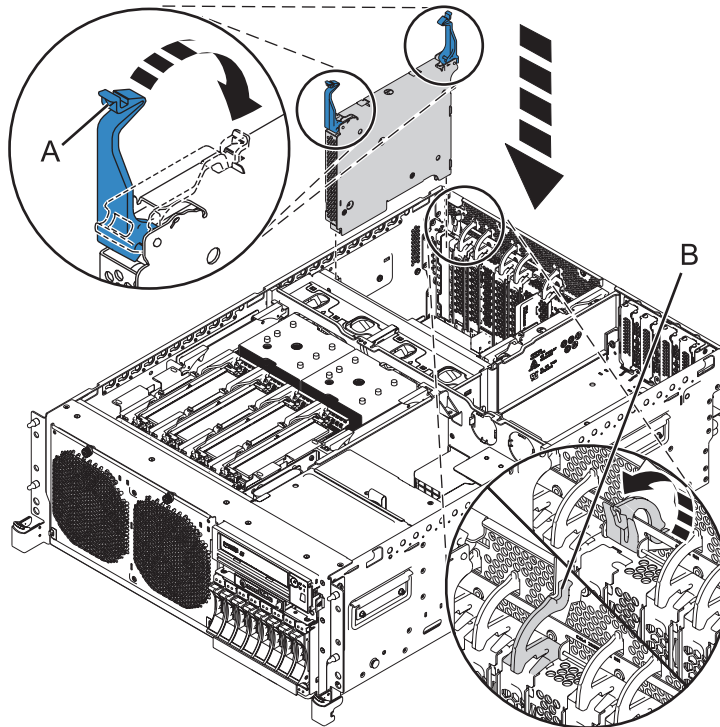
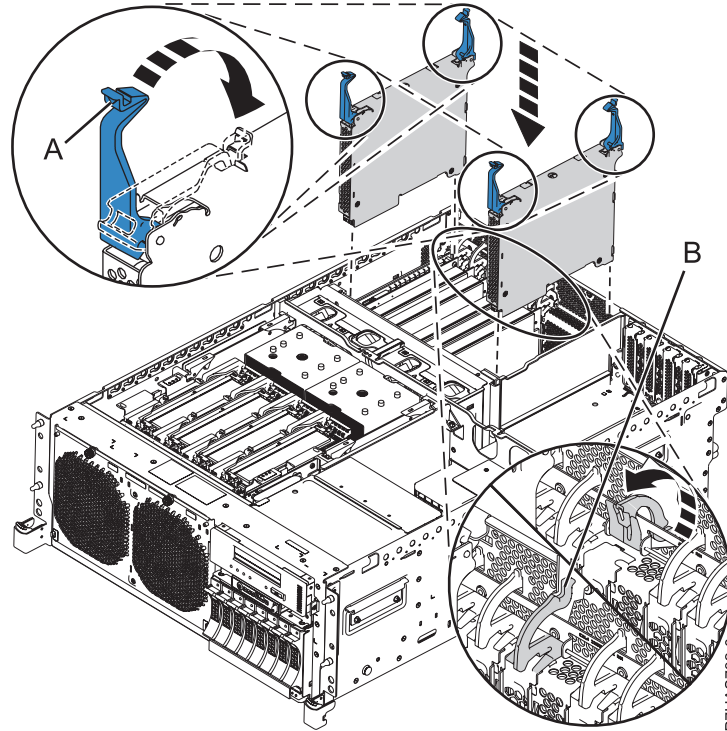

Figure 3. Installing the GX adapter in a rack-mounted 8202-E4B or 8205-E6B system
Figure 4. Installing the GX adapter (FC EJ03) in a rack-mounted 8202-E4C, 8202-E4D, 8205-E6C, or 8205-E6D system
11. Evenly rotate the latches (A) into the locked position, as shown in Figure 3 and Figure 4 on page 5.
12. Rotate the latch (B) into the closed position to lock the adapter into the adapter slot.